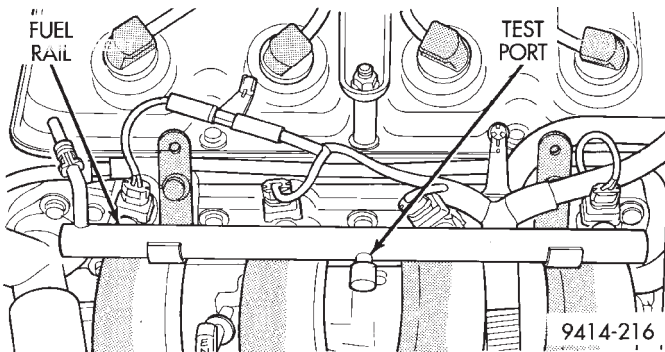

Fig. 8 Fuel Pressure Test Port—Typical
- (1) Disconnect negative cable from auxiliary jumper terminal.
- (2) Remove fuel filler cap.
- (3) Remove protective cap from fuel pressure test port on fuel rail (Fig. 8).